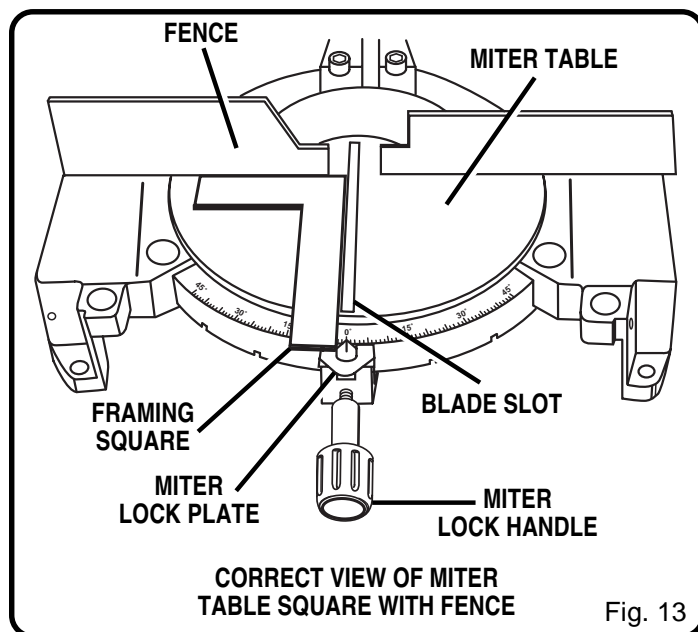

Fig. 13
See Figures 13 - 16.
- Lay a framing square flat on the miter table. Place one leg of the square against the fence. Place the other leg of the square beside the blade slot in the miter table. The edge of the square and the blade slot in the miter table should be parallel as shown in figure 13.